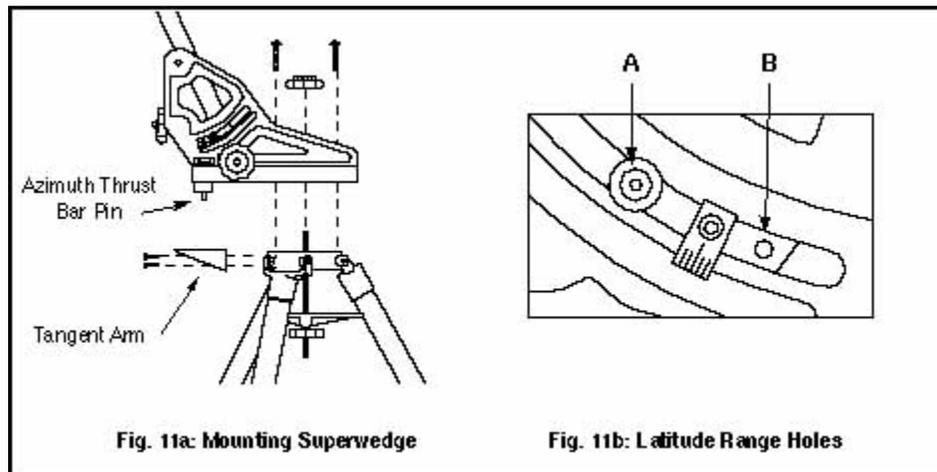

Figure 11a: Mounting Superwedge, Figure 11b: Latitude Range Holes
1. Locate the two 8-32 nylon set screws on the rim of the tripod head and remove them. Attach the tangent arm to the tripod using the supplied 8-32 X 1/2" socket cap screws. (See Fig. 11a.)
3. Holding the threaded rod in position, place the Superwedge on top of the tripod head so that the threaded stud extending from the tripod head passes through the center hole on the wedge floor. Make sure the pin extending from the bottom of the azimuth thrust bar is positioned in the slot on the tangent arm (see Fig. 11a).